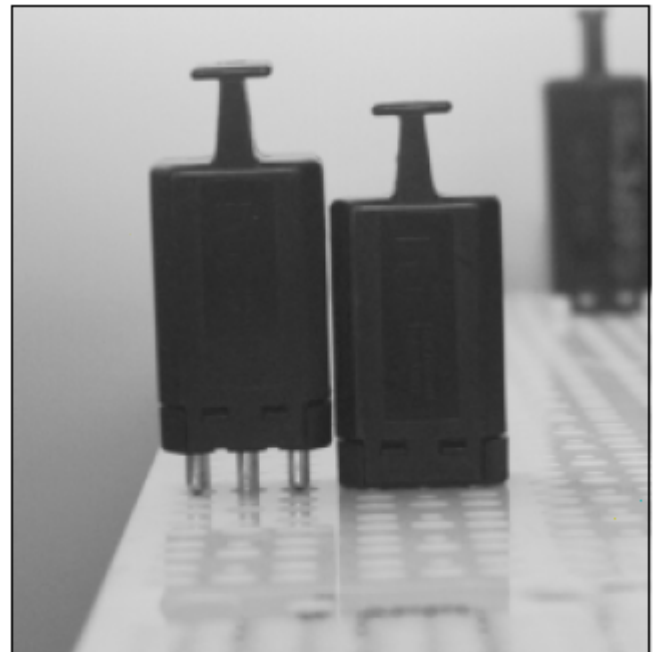

Figure 7 – Protector Module in Detent and Fully Inserted Positions
6.3 When the protector modules are fully inserted (Figure 7) into the connector base, the OSP equipment and the CO equipment are connected. The grounding pin is connected to provide continuity through the connector base mounting bar and interconnected ground straps to the copper ground bar at the base of the distributing frame.
6.4 During installation, the protector modules, if installed, should be in the detent position (Figure 7). This keeps the C.O equipment disconnected from the outside plant yet the outside plant provides protection for the O.P pairs.
10.4 The protector modules and the protector module field are keyed so that the protector modules can only be installed one way. When a module is initially installed, it should be placed in the "detent" position (Figure 7).